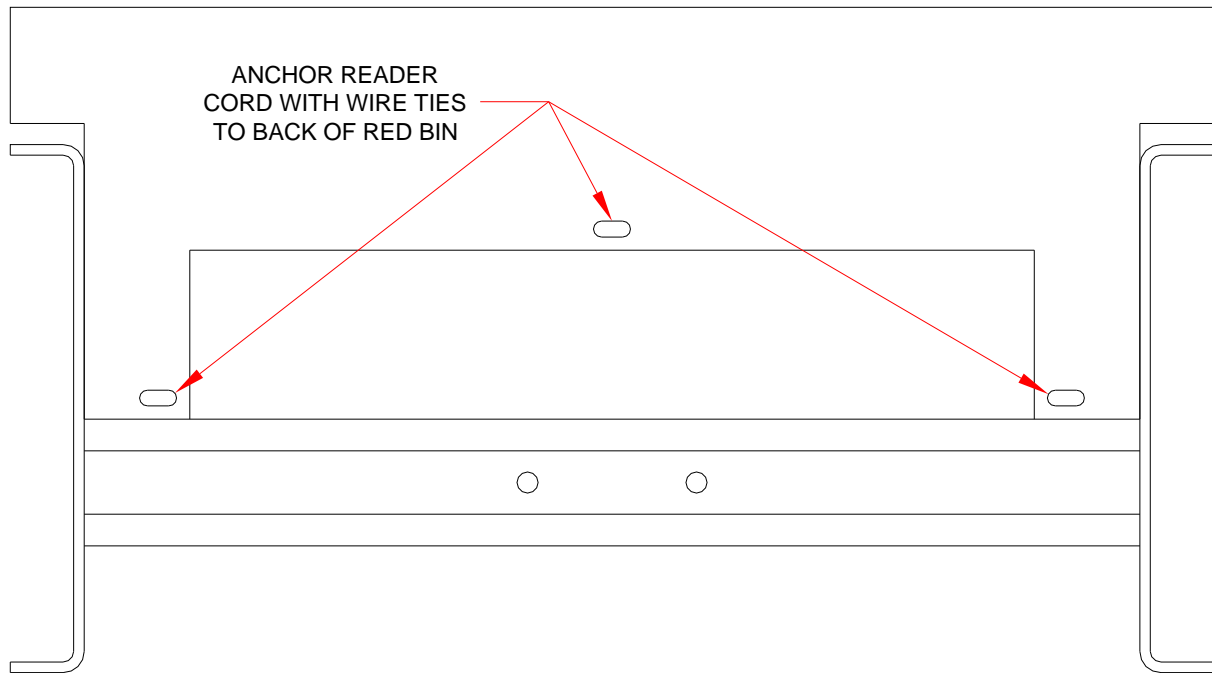

FIGURE 3
18. Using the wire ties provided, tie off the cables at the red drawer bin end to keep them from getting caught on any of the internal components as the drawer moves in and out. (See Figure 3)